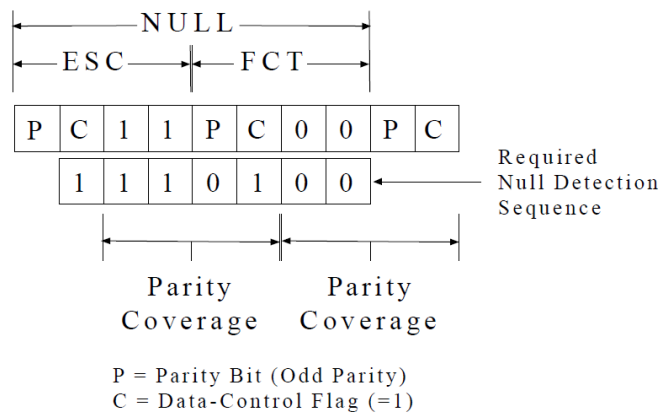

FIGURE 3. NULL DETECTION SEQUENCE
**NULL received** token sent to keep the data link active when there are no data or control characters to send. NULL detection is enabled whenever the receiver is enabled. Any sequence of bits encountered prior to the first NULL will be ignored. A NULL detection sequence example is shown below in figure 3.